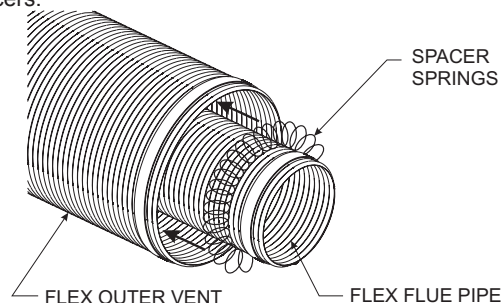
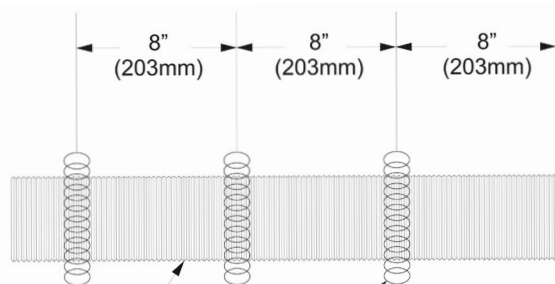

Figure 55
Figure 56
2. Check to see that the vent spacer springs are located around the flue vent at 8" and 12" intervals along its length. **See Figure 55.** If not, stretch the spacer springs to about 15" long and wrap them around the flue, then interlock the ends of each spring about 2". **See Figure 56.** Maintain equal distance between spring spacers.